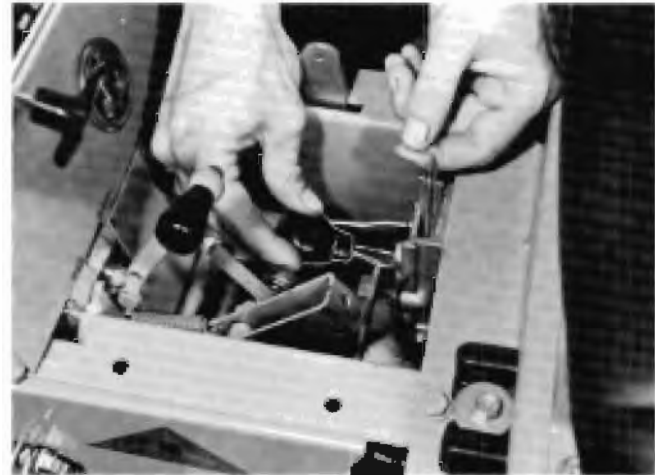

Fig. 5-12 C-Series Automatic, Motion Control Neutral Adjustment
3. Loosen the set screws in the arm with an allen wrench. See Fig. 5-12.